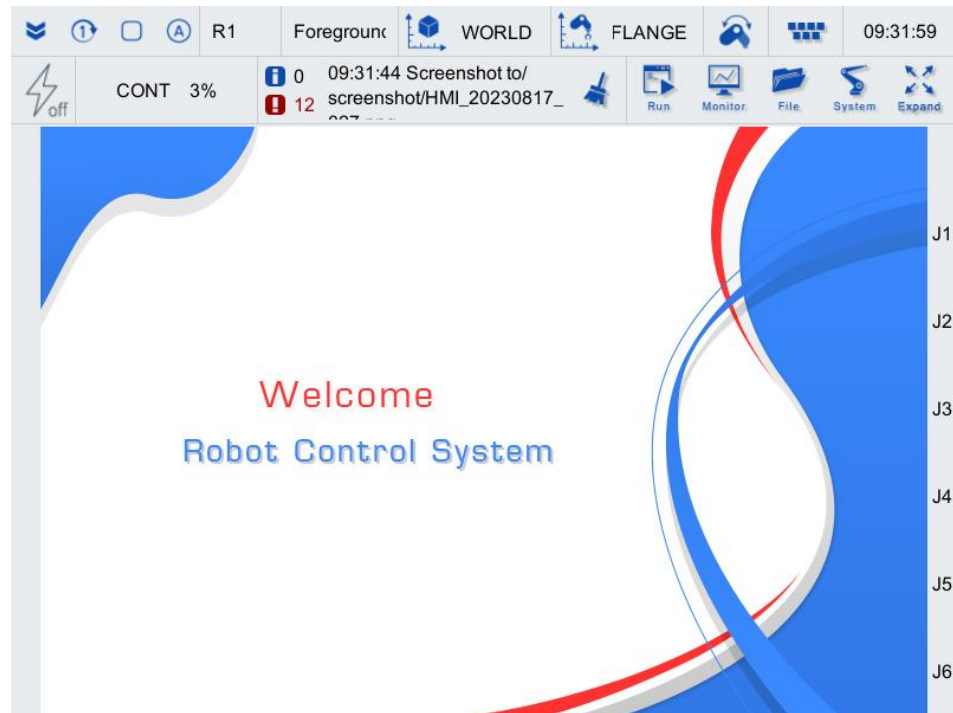

Figure 5-14 Teach pendant main interface
Step1. Log in to the teach pendant and you will see the main interface of the teach pendant as shown in Figure 5-14.